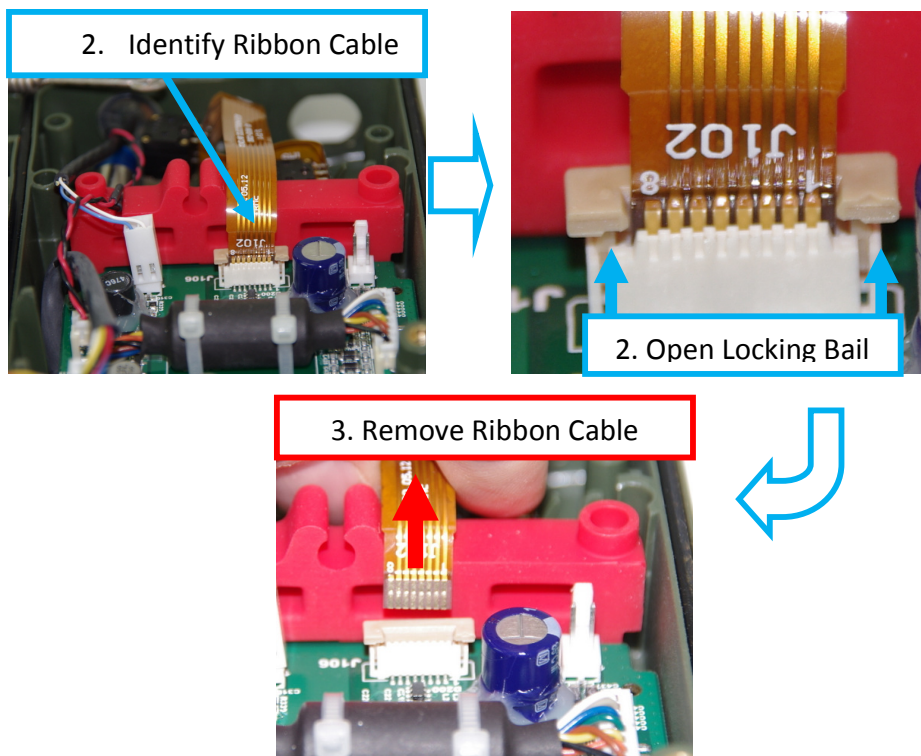

Figure 89: Disconnect the Ribbon Cable
- Identify the connector on the interface PCB that mates with the flexible ribbon cable of the control switches. Open the connector locking bail (slide out). As shown in Figure 89.